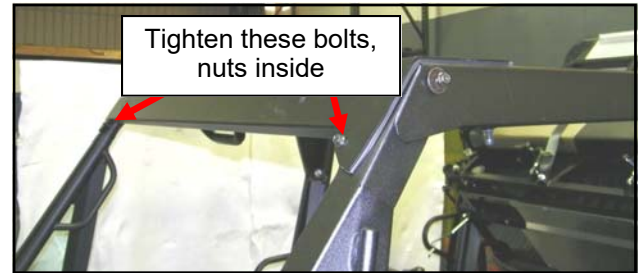

Fig. 9.1 (Windshield support)
9.1 Per figure 9.1, place the windshield support on top of the headers and A-pillars. Attach the windshield support to each A-pillar with a 1/4-20 bolt and nut. Tighten these bolts.